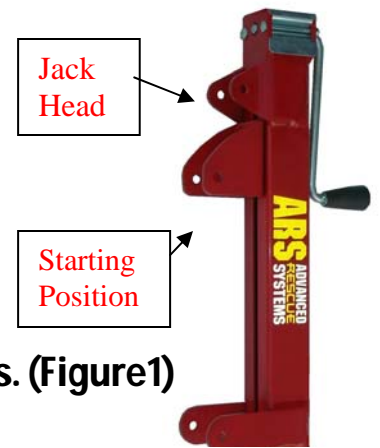

Figure 1
Step 1. Stand Strut Jack and remove two red handled pins. (Figure1)
Step 2. Rotate the Strut Jack's handle clockwise until the center section comes to a stop below jack head. Rotate two revolutions counterclockwise. Jack is now ready to install on strut. (Figure 1)